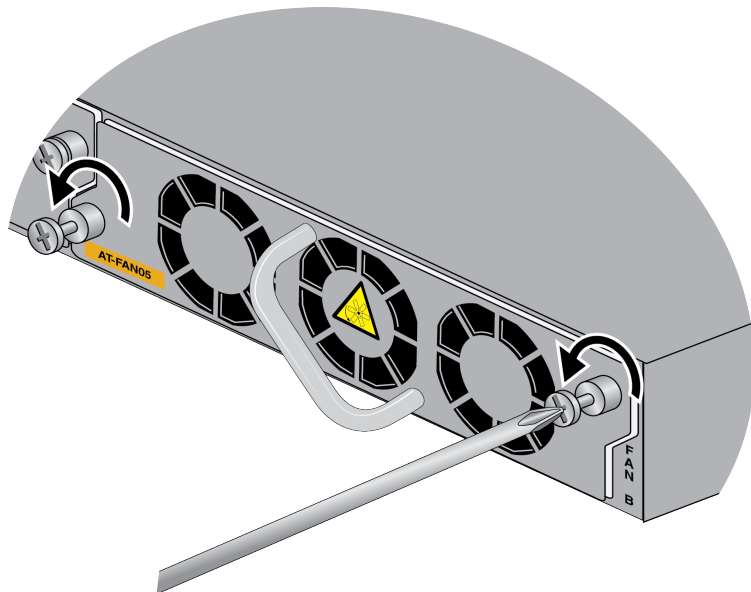

Figure 153. Loosening the Screws on the Fan Module
1. Use a #2 Phillips-head screwdriver to loosen the two screws on the faceplate of the fan module. Refer to Figure 153.